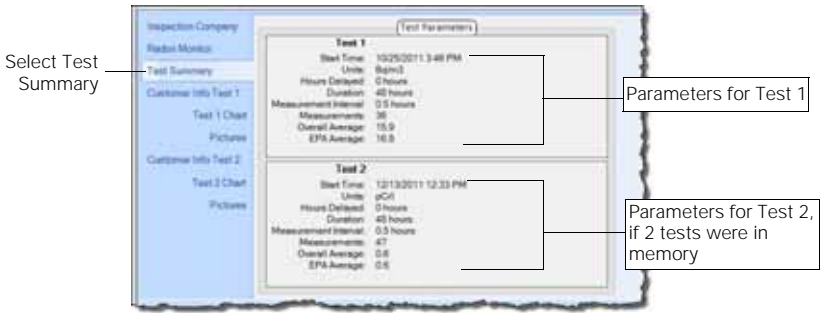

Figure 16. Test Summary
- 3 Select *Test Summary* in the navigation panel. Parameters for the test(s) downloaded from the Radon Sentinel displays in the panel to the right of the navigation panel (Figure 16). If two tests were downloaded the following data displays for each test: